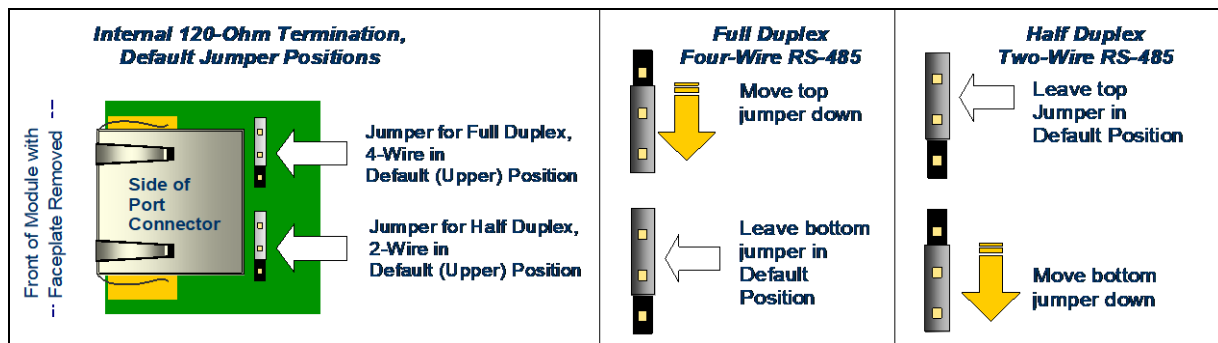

Figure 375: Using the Module Internal Jumpers & Built-in 120Ω Resistor for Termination
- B. Using an external jumper wire. To use this method, do NOT change the positions of the internal jumpers as shown in Figure 375 above. Instead, connect an external jumper wire across connector pins 3 and 7 for RS-485 4-wire, or across connector pins 1 and 4 for RS-485 2-wire.